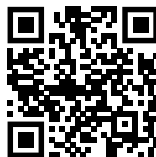

Fig. 128
► Åbn Liebherr SmartMonitoring Dashboard. (se Fig. 128)